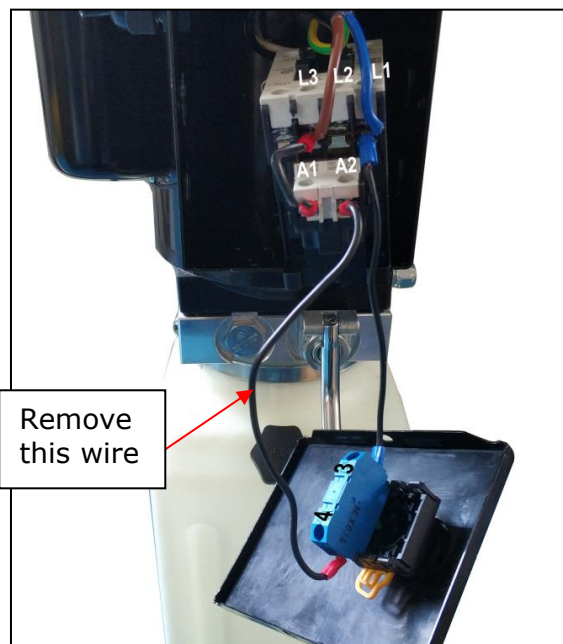
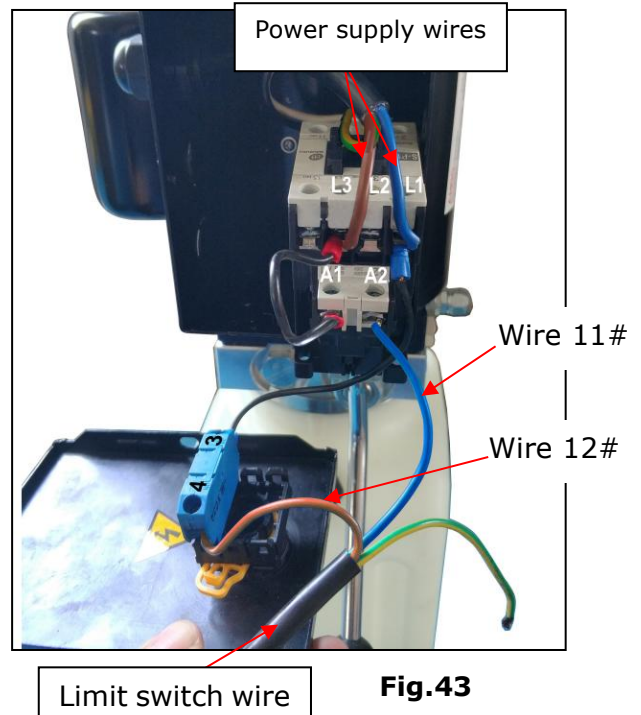

Fig. 42
Fig.43
b. Connecting the limit switch: Removing the wire of connecting terminal 4# of control button and A2 of AC contactor firstly (See Fig. 42), then connecting wire 12# (brown wire) of limit switch with terminal 4# of control button and connecting wire 11# (blue wire) with terminals A2 of AC contactor respectively. Connecting the earth wire of limit switch to the earth wire terminal on the motor. (See Fig.43).